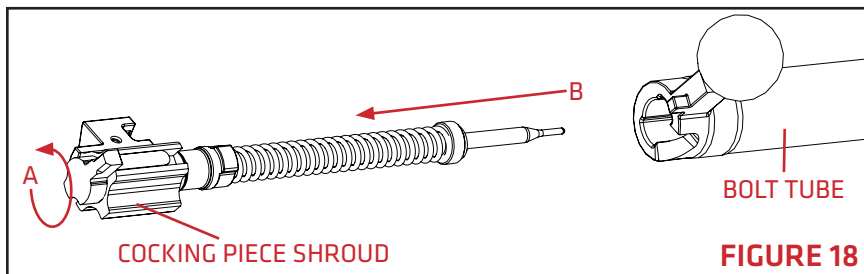

FIGURE 18
3. Rotate the cocking piece shroud counter clockwise 120 degrees (**FIGURE 18-A**) and withdraw from the bolt tube (**FIGURE 18-B**). **DO NOT DECOCK THE LEVER WITH THE FIRING PIN ASSEMBLY REMOVED FROM THE BOLT TUBE.**